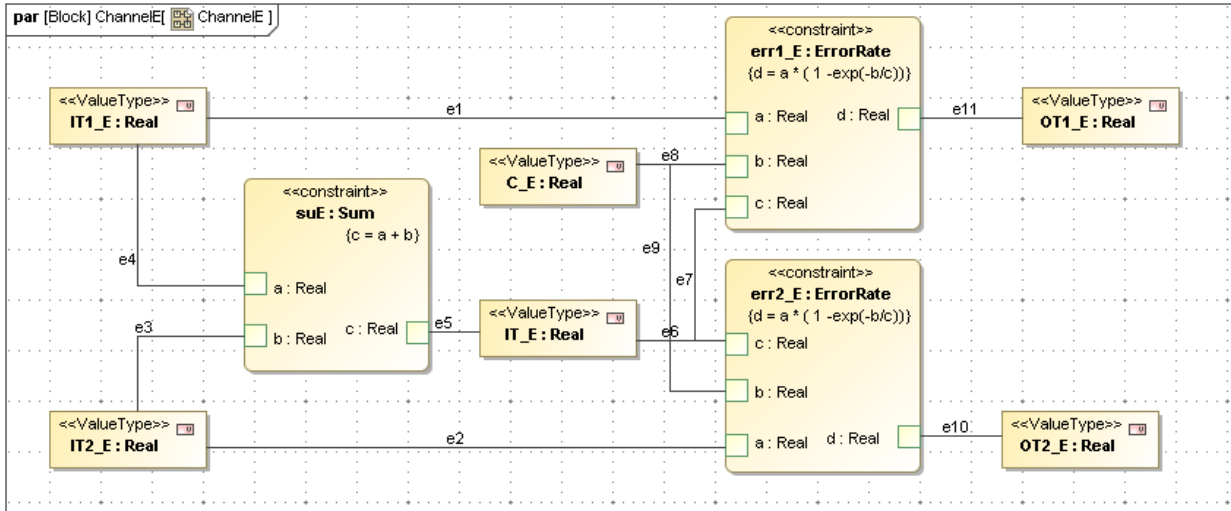
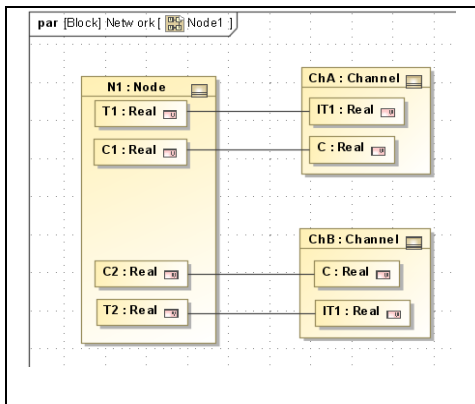

Figure 5.8 Channel parametric diagram
Figure 5.9a Node 1 parametric diagram
- b. Create a parametrics diagram within the Channel block, Name = Channel. This diagram, shown in Figure 5.8, contains three constraint properties (including two usages of the ErrorRate constraint), with the constraints shown, the six internal value properties, and the nested connectors tying them together. In this example, the objective of the equations to reduce the signal throughput at the output of each line relative to the input by an exponential factor based on Capacity C and total incoming traffic. No claim is made about the realism of this model.
- c. Create parametric diagrams connecting the channels and nodes through equalities as in Figure 5.9a-d. Use the internal block diagram in Figure 5.8 to keep track of which blocks and ports connect. In this example, we have chosen to divide the entire set of high level parametric relationships into four separate diagrams in order to keep each individual diagram simpler with fewer elements. This illustrates the combined use of internal block diagrams for a high-level qualitative perspective and narrower parametric diagrams to make the actual quantitative connections.